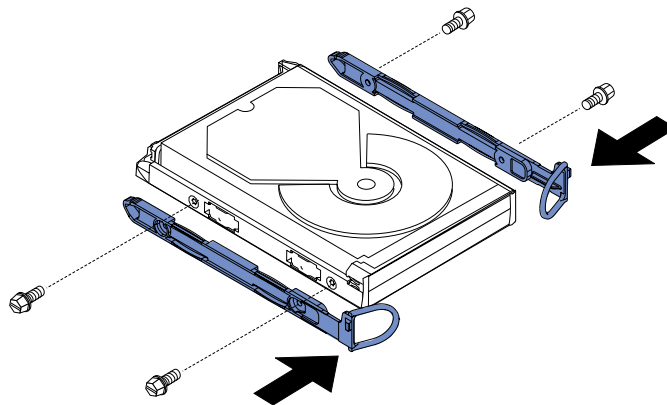

Figure 85. Attaching the rails to the disk drive
9. If you are exchanging the disk drive for another, refer to Figure 85.